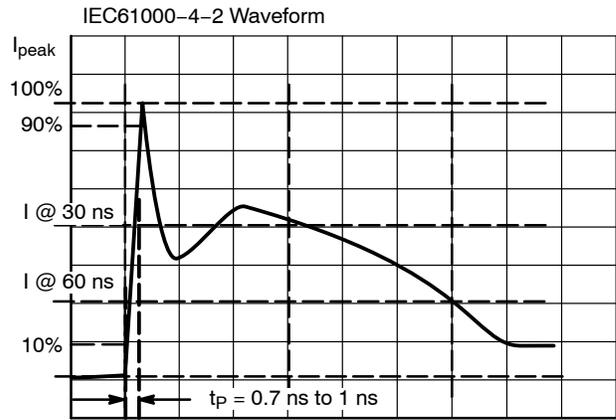

Figure 12. IEC61000-4-2 Spec
- For test procedure see Figure 12 and application note AND8307/D.